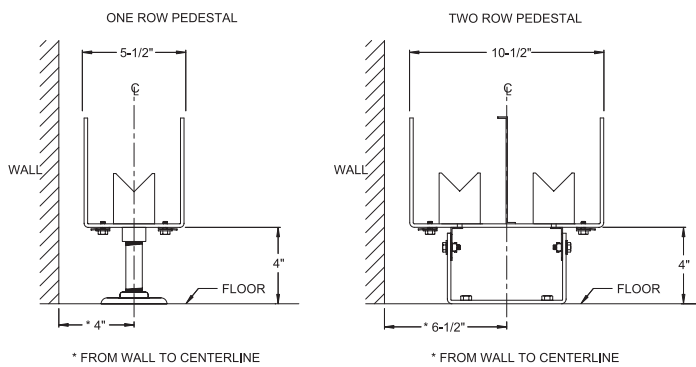

FIGURE P-2
- (2b) Adjust the pedestals to the desired height. The minimum recommended height of the pedestal from the floor is 4". (FIGURE P-2)